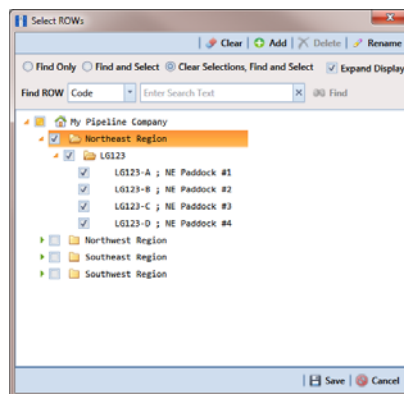

Figure 3-74. Select ROWs
- 1 Click **File > Select ROWs** to open the *Select ROWs* window. Select one or more pipeline segments and then click  **Save** to close the window (Figure 3-74).
- 1 Click **File > Select ROWs** to open the *Select ROWs* window. Select one or more pipeline segments and then click  **Save** to close the window (Figure 3-74, page 122).